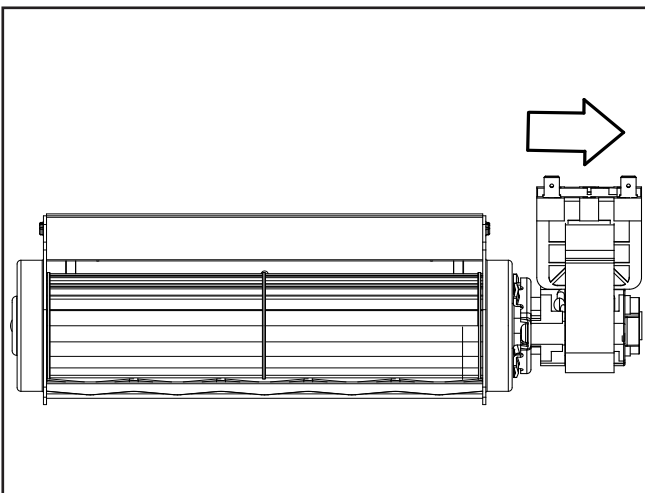
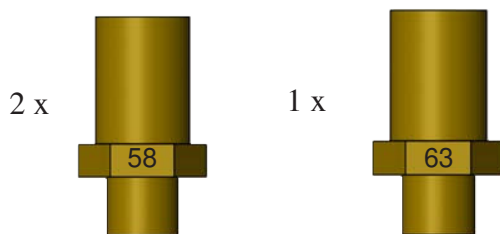
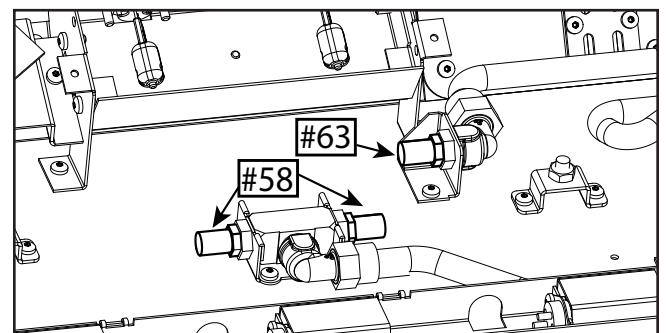

Figure 34: Pulling out the motor
Figure 38: Orifice Markings
Figure 39: Burner Orifice Locations
- Pull the motor slightly and rotate it 90 degrees counterclockwise into the next set of slots on the blade assembly (Figure 34).
5. Convert the burner pan orifices with the one provided in this kit using a ratchet and 1/2" socket (Figure 38). There are two #58 orifices that are for the elevated burners and one #63 orifice that is used for the pan burner. The markings can be found on the side of each orifice (See figure 39). For specific instal locations of each orifice see see Figure 34.